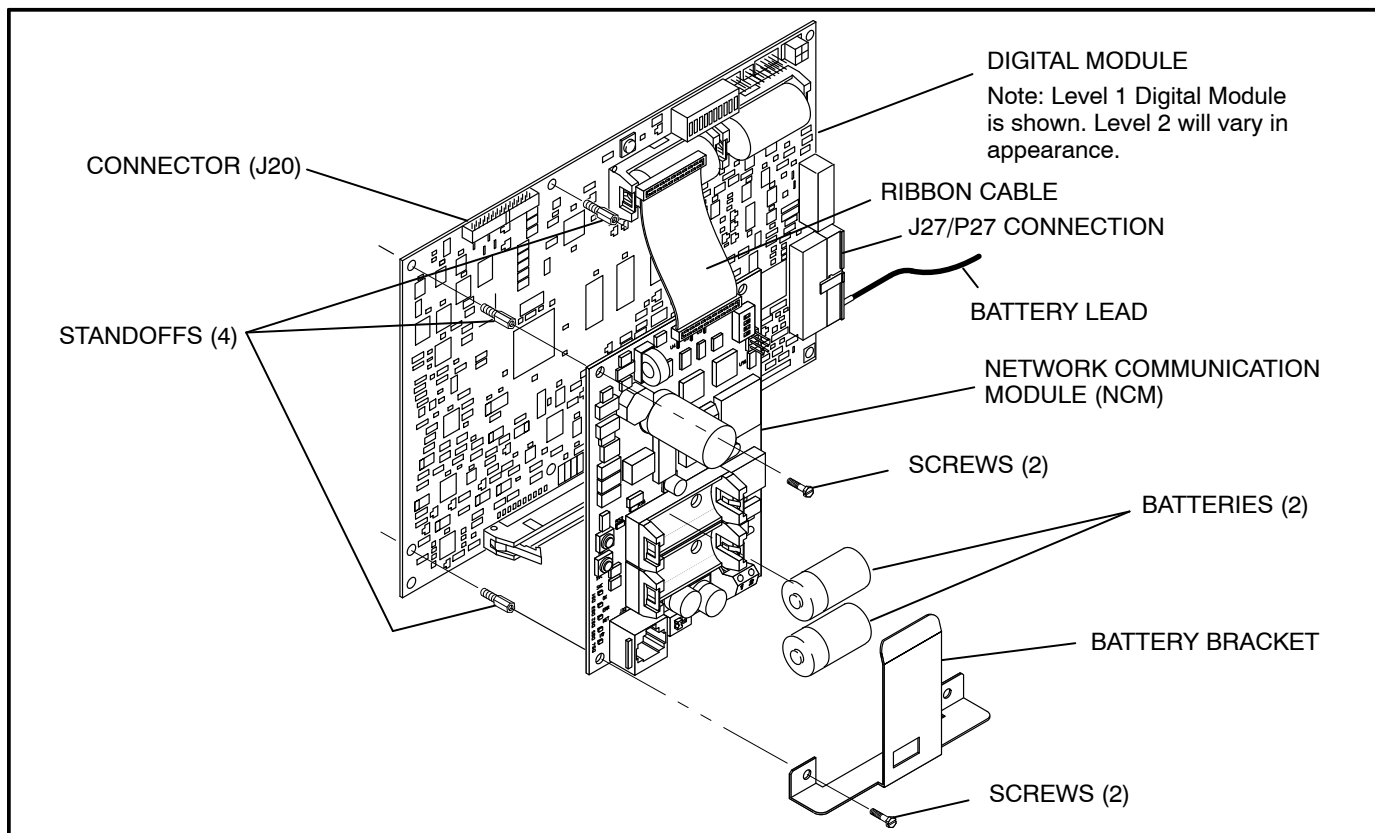

FIGURE 11-2. NETWORK COMMUNICATION MODULE INSTALLATION (EARLY PRODUCTION)
12. For early production units (see Figure 11-2),